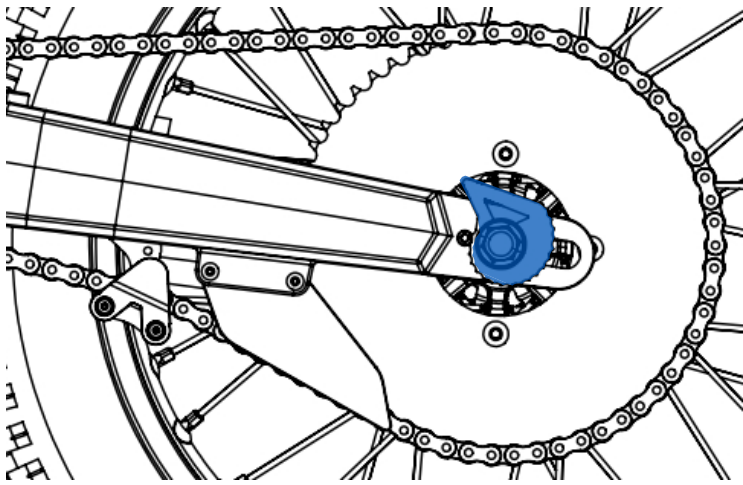

Fig. 23a
- 3- Turn the eccentric adjuster (Figure 23a), to a position depending on the chain slack, and obtain the correct tension. Make sure that the stop is located between the teeth of the eccentric adjuster and the two sides equally. These components must be placed in the correct position according to the required tension level.
Figure 23a shows the configuration corresponding to the minimum position of the wheel, which must be maintained until half of the travel is reached.